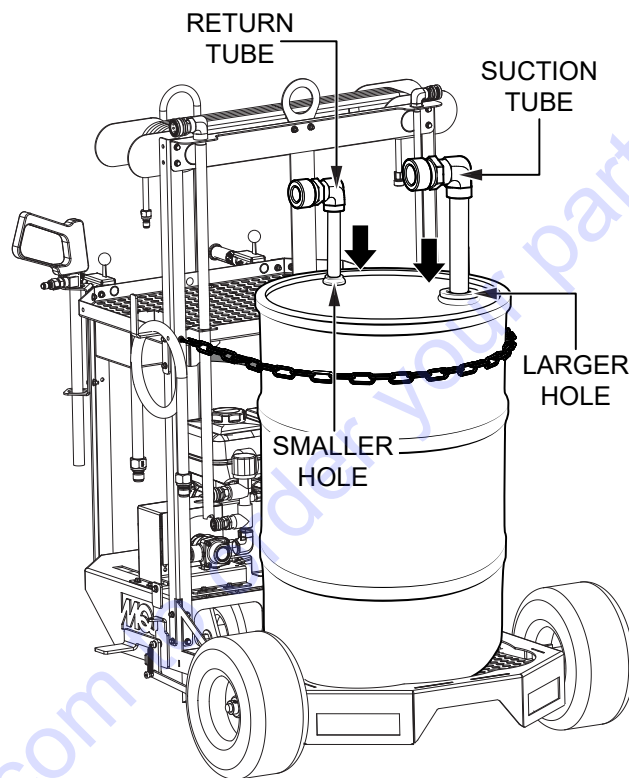

Figure 15. Tube Installation
5. Insert the **suction** tube (the **larger** of the two tubes) into the top of the supply container(s). If the bung holes are different sizes, be sure to place the suction tube into the **larger** hole. See Figure 15.
6. Insert the **return** tube (the **smaller** of the two tubes) into the top of the supply container(s). If the bung holes are different sizes, be sure to place the return tube into the **smaller** hole (Figure 15).